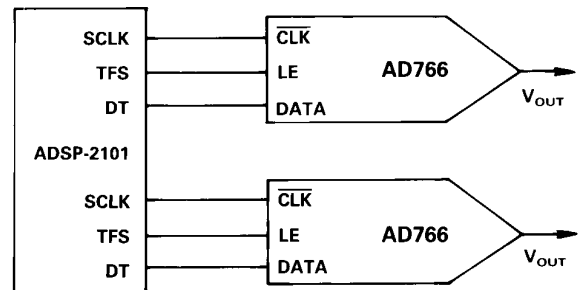

Figure 12. AD766 to ADSP-2101/ADSP-2102/ADSP-2105/ADSP-2111
The ADSP-2101 incorporates two complete serial ports which can be directly interfaced to the AD766 as shown in Figure 12. The SCLK, TFS and DT outputs of the ADSP-2101 are connected directly to the $\overline{\text{CLK}}$, LE and DATA inputs of the AD766, respectively. SCLK is internally generated and can be programmed to operate from 94 Hz to 6.25 MHz. Data (DT) is valid on the falling edge of SCLK. After 16 bits have been transmitted, the falling edge of TFS updates the AD766's data latch. Using both serial ports of the ADSP-2101, two AD766's can be directly interfaced with no additional hardware.